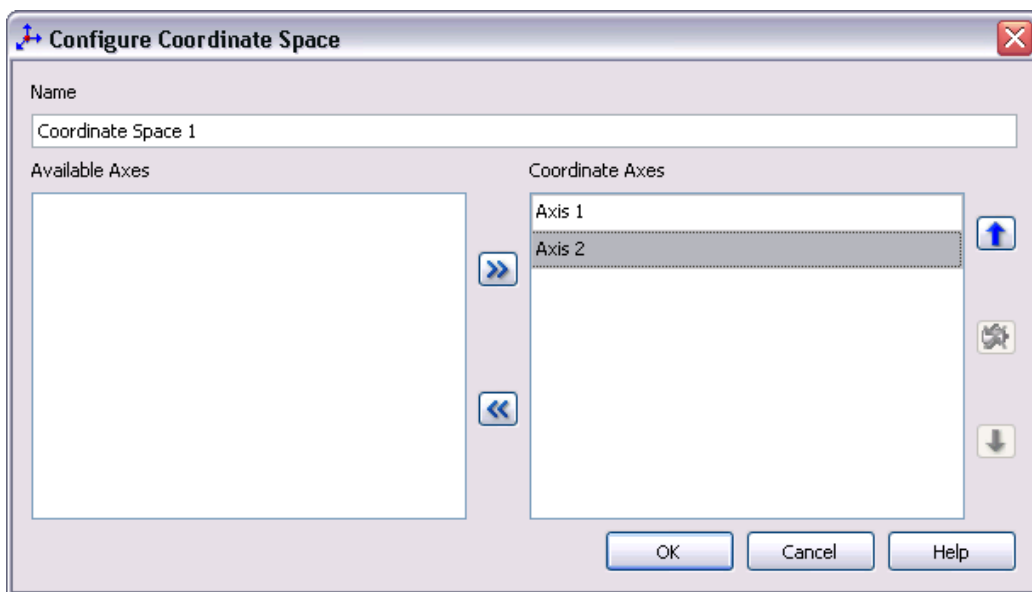

Figure 4. Configure Coordinate Space Dialog Box
1. Right-click the target in the **Project Explorer** window and select **New>NI SoftMotion Coordinate Space** from the shortcut menu to open the **Configure Coordinate Space** dialog box, shown in Figure 4.